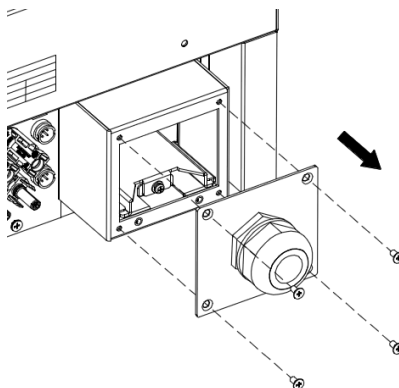

Figure 4.17 Unpacking the waterproof cover
(2) Disassemble the waterproof cover of the three-phase inverter AC junction box, as shown in Figure 4.17.